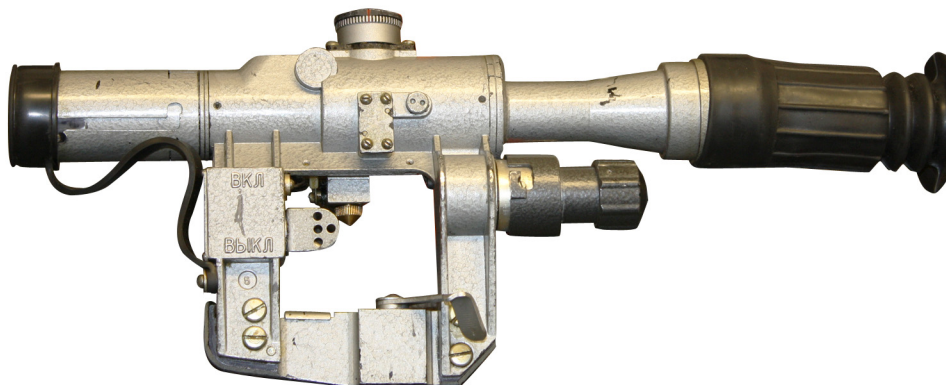

Figure 2. Telescopic Sight.
2. Telescopic sight. Refer to Figure 2.